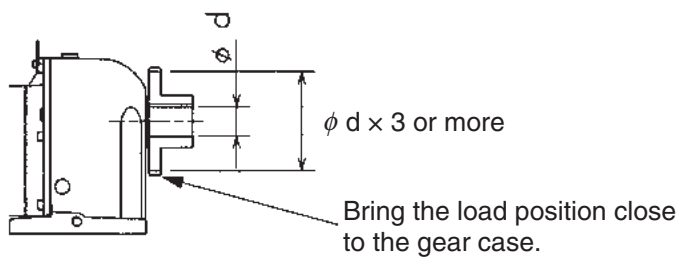

Fig. 14 Position of sprocket
- (3) To prevent damage caused by overhang load, install the sprocket, gear and pulley in such a way that the load position is as close to the output shaft stepped section as possible (see Fig. 14).